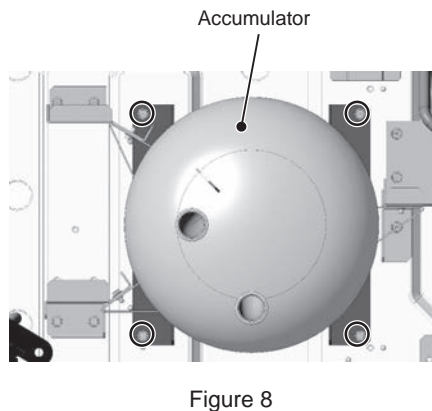

Figure 8
- (8) Remove the screws from the leg of the fixing plate holding the accumulator. (4 screws, Figure 8)